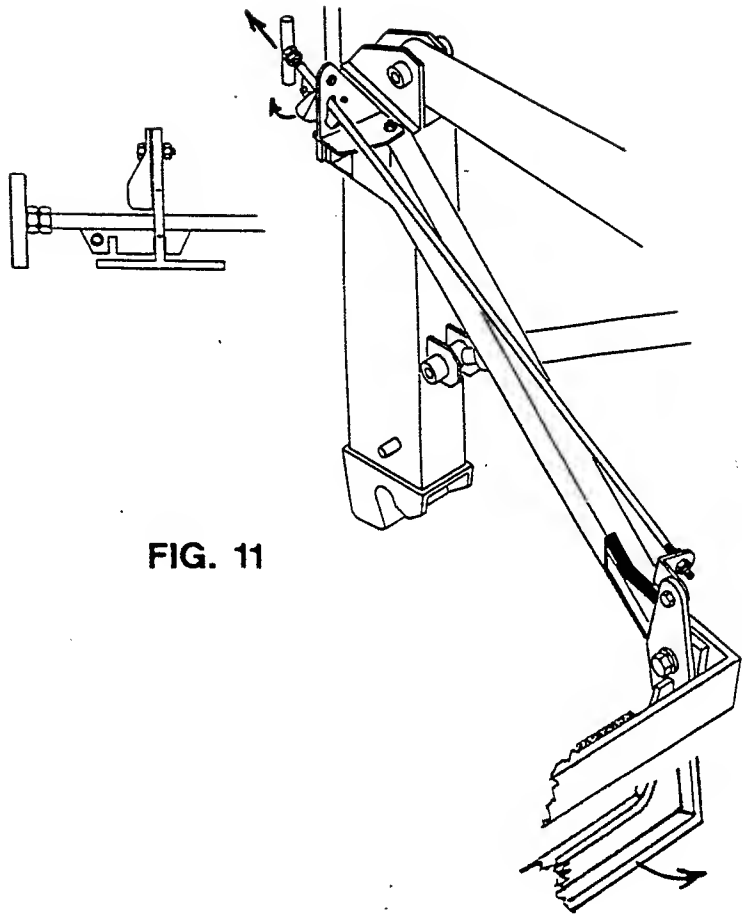

FIG. 11
- Rotate latch keeper up and to the left. Grasp handle on latch rod, lift up and out of slot. Pull handle back to the unlatch (remove) position and down into the slot. See Fig. 11.